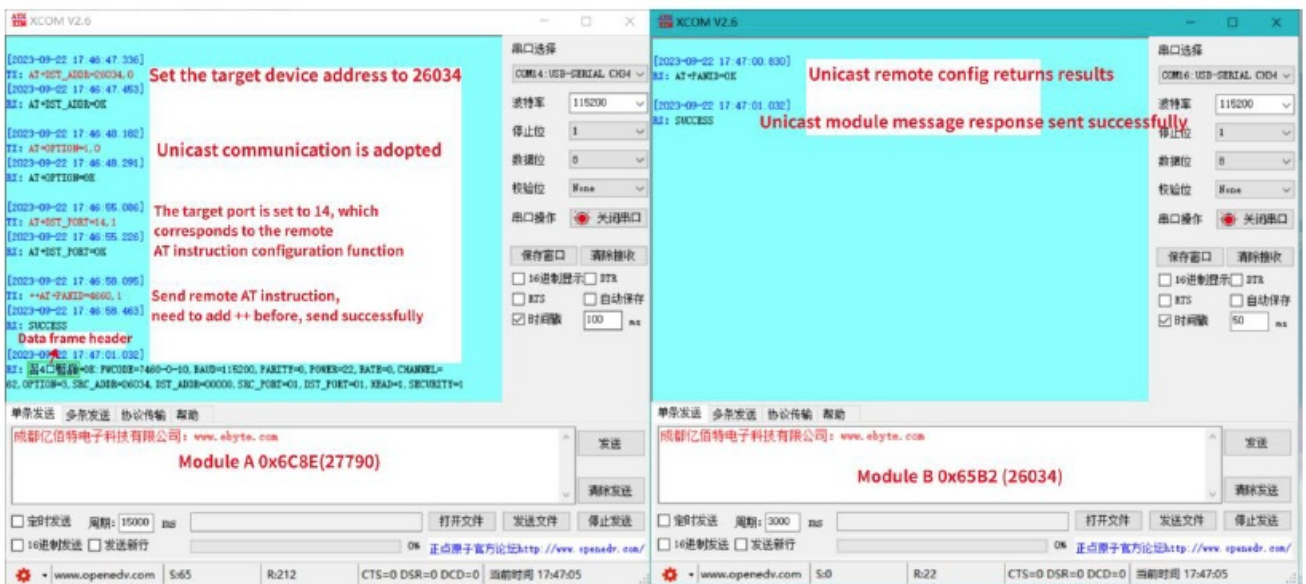

Figure 8.2.1 Remote single point configuration steps
• **Figure 8.2.1** Unicast communication